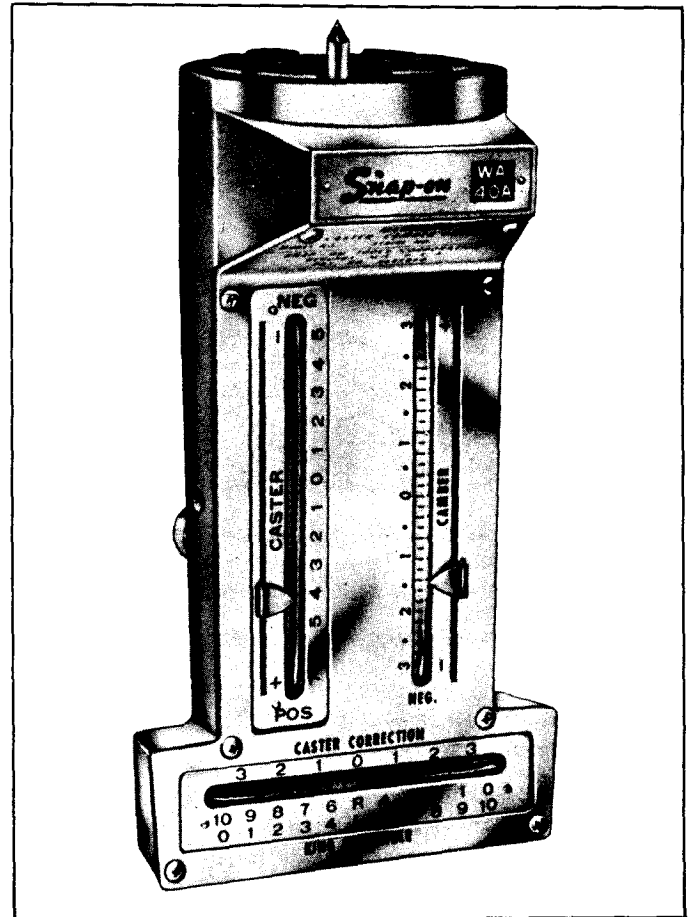
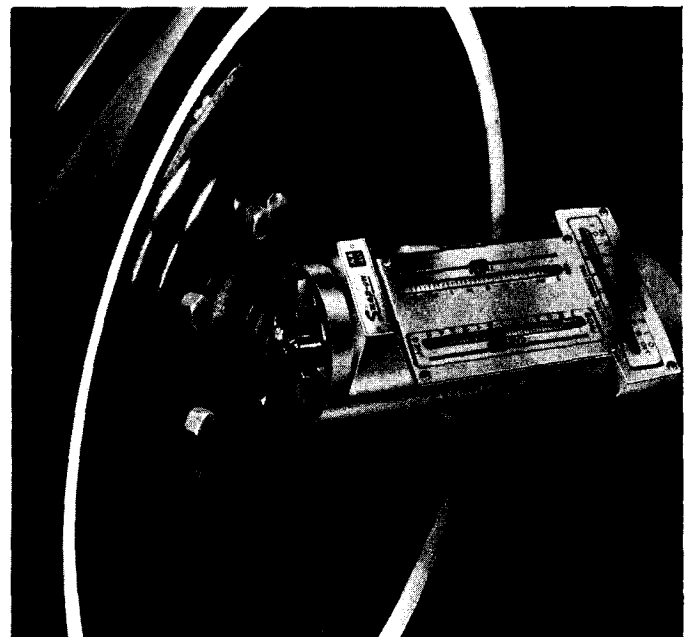

Figure 10 — WA40A Caster-Camber Gauge
Figure 11 — Positioning the Gauge
3. Holding the *Snap-on* WA40A Magnetic Caster and Camber Gauge (Figure 10) near the hub flange, set the self-centering plunger in the lathe center hole in the end of the front wheel spindle (See Figure 11). Powerful alnico magnets will attach the gauge to the machined hub flange of the wheel. Twist the gauge about a quarter-turn several times to let it get a positive seat on the flange. (If there is a rocking motion, remove the gauge and check the flange and the gauge for grit or foreign particles. The self-centering plunger makes sure that readings will be taken from the exact center of the spindle.